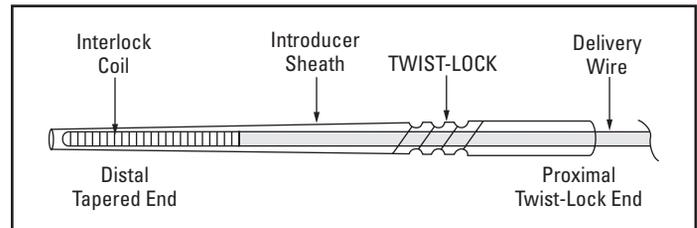

Figure 5. Introducer Sheath with Twist-Lock Mechanism
9. Release the Interlock - 35 Fibered IDC Occlusion System inside its introducer sheath by gently pinching the sheath on both sides of the twist-lock mechanism and rotating proximal side counter-clockwise (Figure 5 and 6).